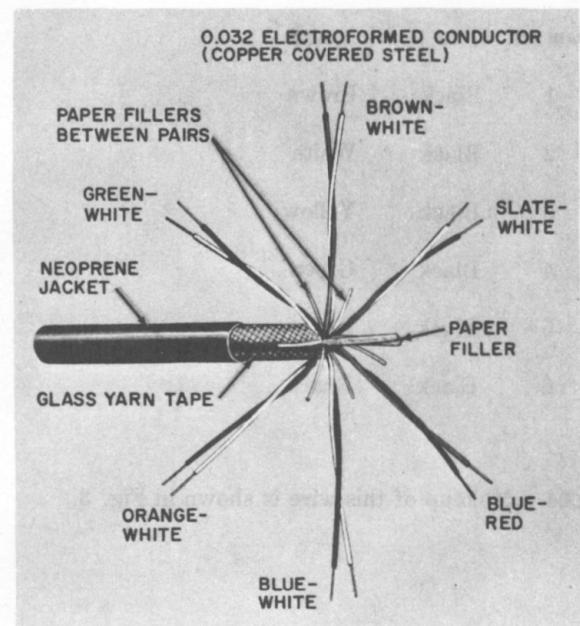

Fig. 1—E Multiple Drop Wire
2.03 Figure 1 illustrates the makeup of E multiple drop wire.